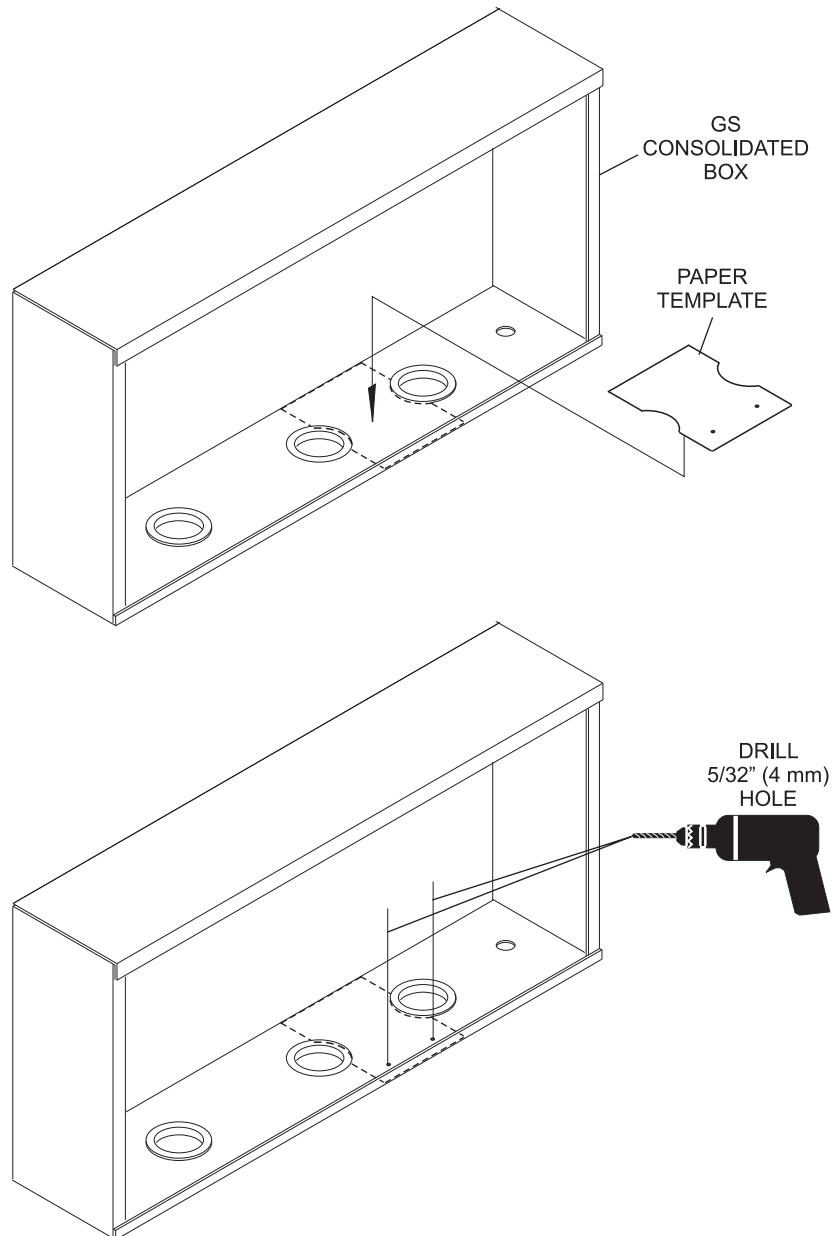

Figure 1
1. Using the paper template located on page 7, drill two 5/32" (4 mm) holes in the bottom of the Consolidated Low Voltage Box, just to the right of center and between the two cable access holes. Refer to *Figure 1*.